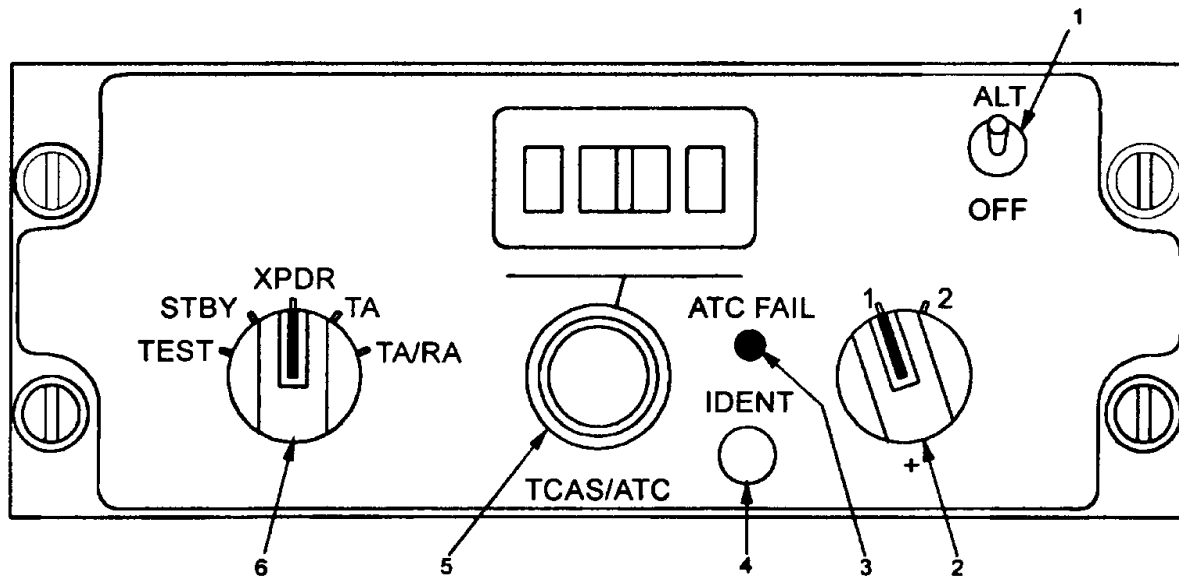

Figure 3B-142. TTC-920 Transponder/TCAS Control
d. TCAS Mode/Warning Flags and Messages TCAS mode/warning flags and messages are shown in Figure 3B-144 and Table 3B-106. They may appear in one of the seven indicated slots on the display face.